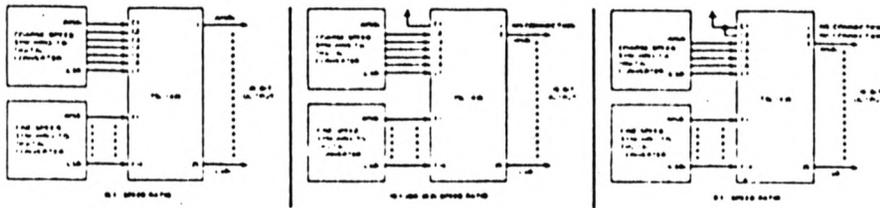

FIGURE 3 Conversion for Different Speed Ratios
Figure 3 shows input connections for different speed ratios. Note that for a speed ratio of 18:1 coarse input C1 is grounded and output MSB (180°) is the output labeled 2. For a speed ratio of 36:2, although input and output connections are same as that for 18:1, the MSB output (2) represents 90°. For a speed ratio of 9:1 inputs C1 and C2 are connected to ground and output bit 3 is the MSB (180°). For line speed digital input of less than 14-bits unused LSB inputs must be connected to ground.